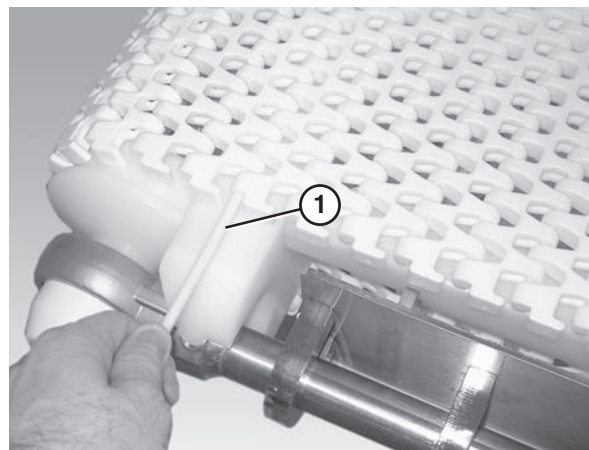

Figure 38
4. Insert the belt rod (Figure 38, item 1).